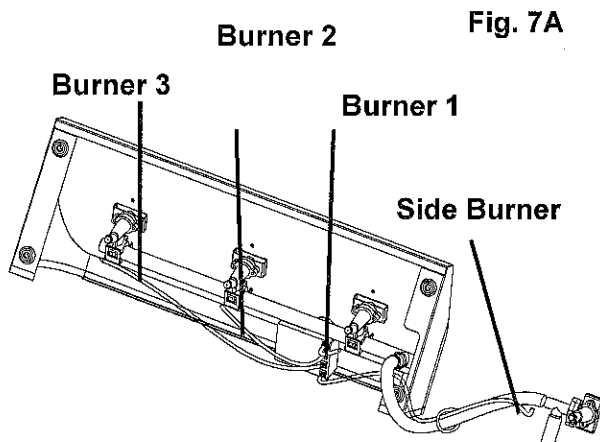

Fig. 7B
*Procedure:* Refer to Fig. 7B and carefully thread the HVR with the Side Burner igniter wire through the opening in the front face of the Grill, make a turn to the left and bring it out through the opening in the left side of the Grill. Allow it to hang free, as we will later make the connection to the Side Burner.